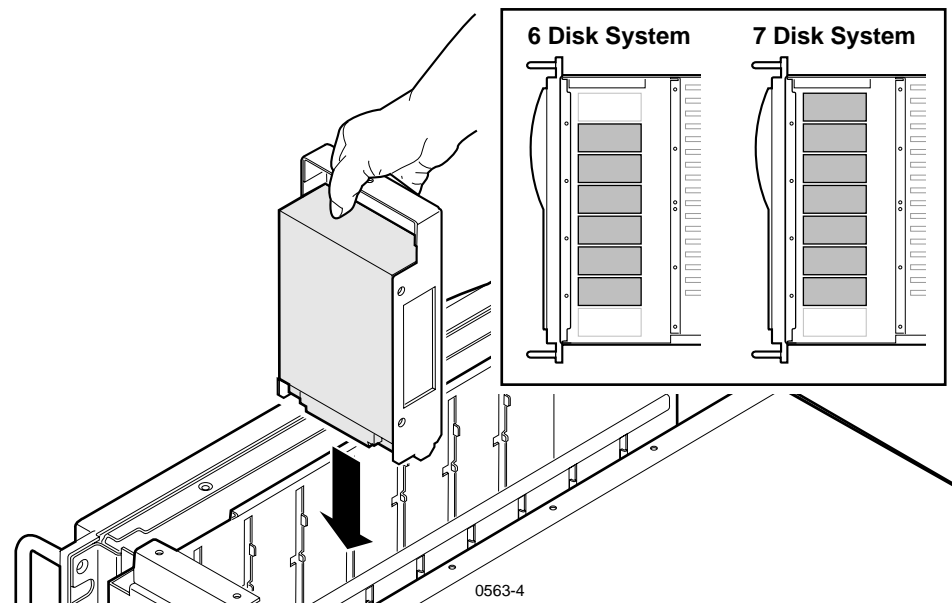

Figure 2. Disk Drive Caddie Orientation and Disk Drive Locations
2. Being sure to observe the connector orientation, in turn, slide each new drive into an unused caddie slot in the drive tray as shown in Figure 2, and firmly press down to connect the drive connector to the SCSI Backplane. Refer to Figure 2 to determine disk locations for six and seven disk systems.